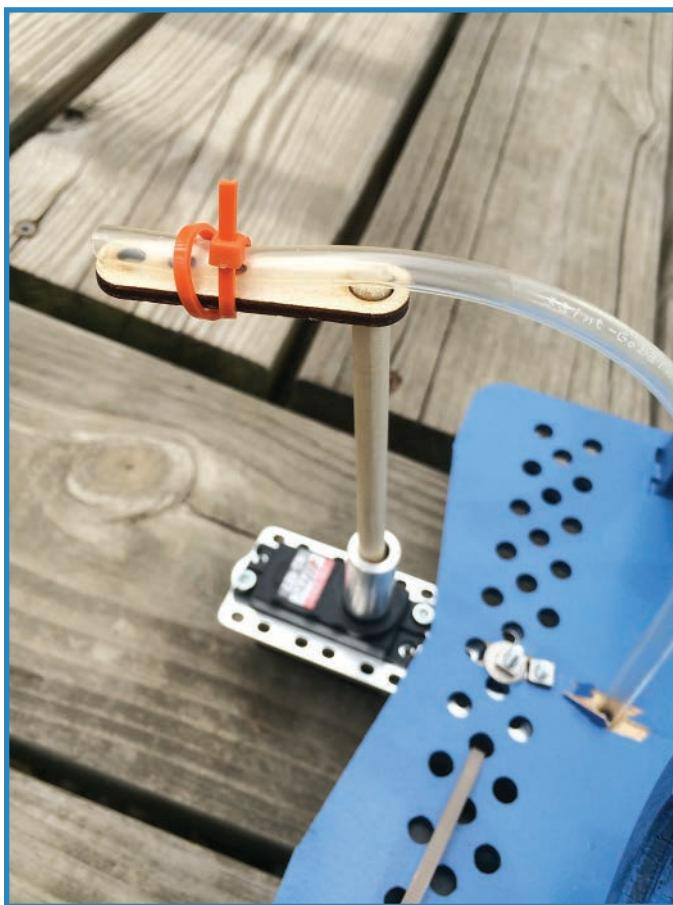

FIGURE 11.22 Angle the output tube to propel the drone forward.
10. Zip-tie the tube to the tube holder on the dowel, as seen in Figure 11.22.